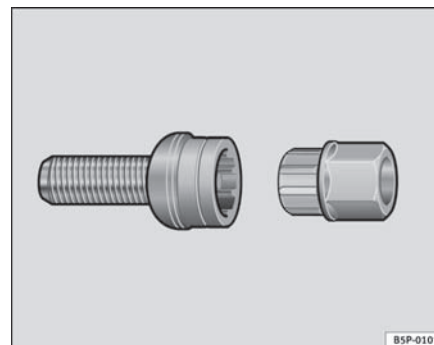

Fig. 176 Anti-theft wheel bolt
- Insert the adapter onto the wheel bolt and push it on as far as it will go ⇒ page 239, fig. 176.